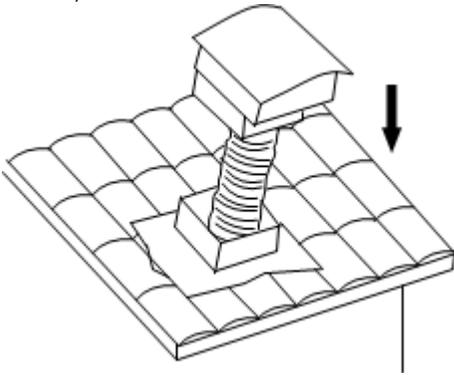

Fig 19
- Fix the motor and support to the rectangular pipe by using the 8 screws, making sure to position the air exit towards the lower part of the roof so that rain and dirt can't store in it (Fig 19).